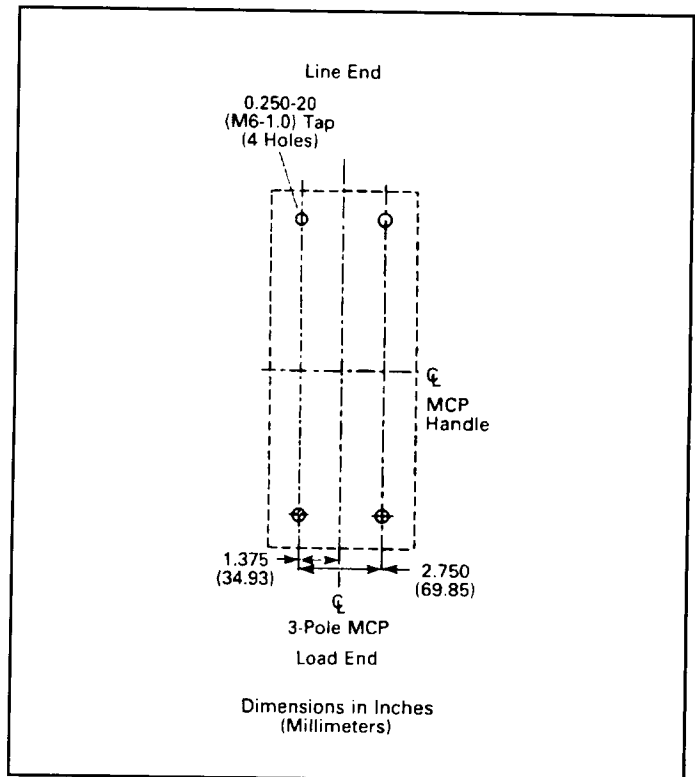
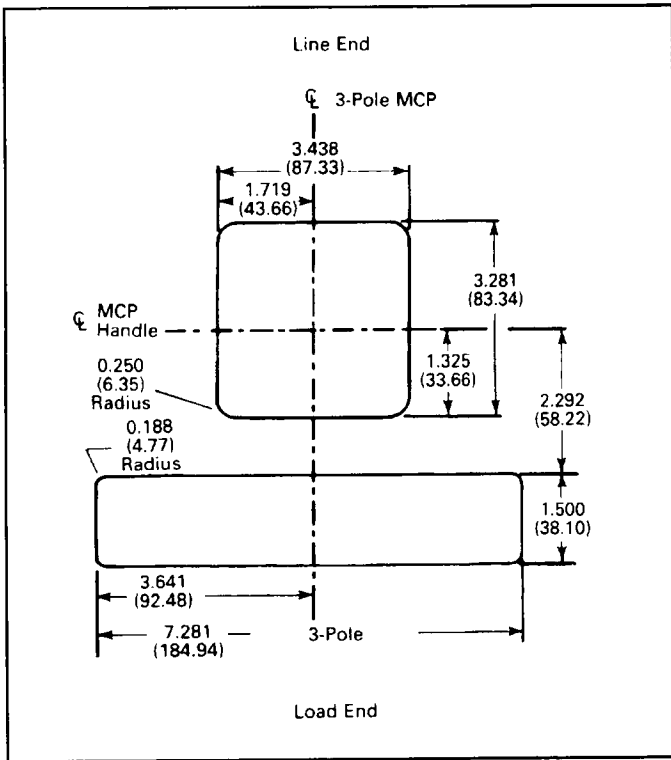

Fig. 2-2 3-Pole MCP Mounting Bolt Drilling Plans
Fig. 2-3 MCP Escutcheon Cutout Dimensions for 3-pole MCP
- For individual surface mounting, drill mounting panel using the drilling plan shown in Fig. 2-2. For panelboard mounting, only load end support mounting holes are required. For dead front cover applications, cut out cover to correct escutcheon dimensions, see Fig. 2-3.
Existing cutouts must be modified to agree with requirements shown in Fig. 2-3.